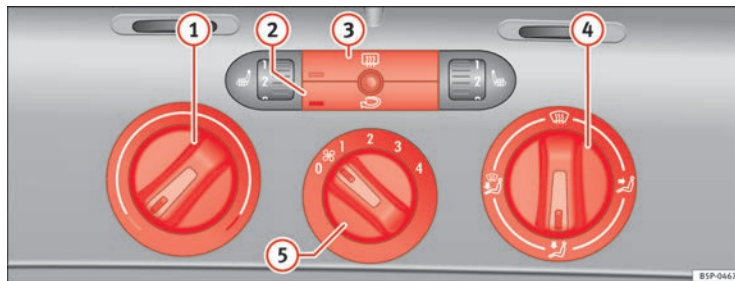

Fig. 125 Heating controls on the dash panel
- Using the controls ⇒ fig. 125 ① and ④ and the control ⑤ you can set the temperature, air distribution and the blower speed.
- To switch a function on or off, press the appropriate button ② or ③. When the function is activated, the display window in the lower left of the button is lit.